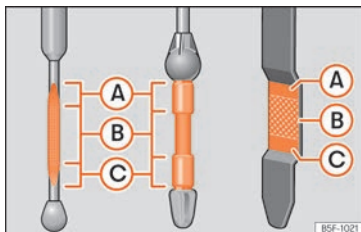

Fig. 223 Engine oil dipstick.
- Then pull it out once more and check the oil level » **Fig. 223**. Top up with engine oil if necessary.
- When the oil level reaches at least zone » **Fig. 223 B**, unscrew the engine oil filler cap carefully » **1**.
If the oil level is above area » **Fig. 223 A**, do not start the engine. This could result in damage to the engine and catalytic converter. Contact a specialised workshop.
The oil level must never be above zone » **Fig. 223 A**. Otherwise oil can be drawn in through the crankcase breather and leak into the atmosphere via the exhaust system.